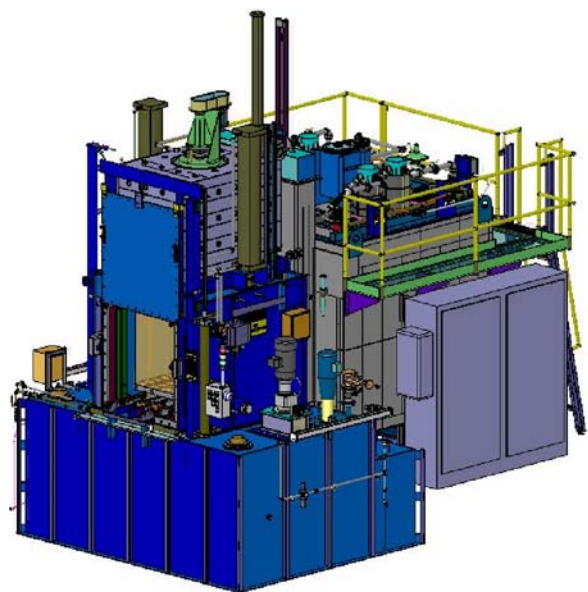

Figure 3. UHQ integral quench batch furnace
The IQ furnace has been the preferred furnace for commercial and captive heat treaters alike, primarily due to the flexibility offered in process, load size and efficiency. With electric as well as gas fired radiant tubes, the IQ furnace has provided unmatched utility and quality for all industrial, aerospace and military markets worldwide. AFC-Holcroft's UHQ series of IQ furnaces are the preferred product for many of the world's largest drive train suppliers. Today AFC-Holcroft's batch furnace as shown in Figure 3 is carburizing and quenching planet gears used by a major wind turbine manufacturer. Flame Metals Processing Corp. in Rogers, MN is a certified heat treat supplier meeting all of the AGMA and wind turbine quality requirements. Even though AFC-Holcroft has sold IQ furnace designed for very large loads, up to 72" (1829 mm) square and 12,000 lbs (5454 kg), they have not been applied to large gears probably because of rear handler (RH) capacity restrictions and the quench tank design. EZ-Lynks, AFC-Holcroft's alternative heat treating system shown in Figure 4a, Figure 4b and Figure 4c eliminates the pit disadvantage and overcomes the material handling concerns by separating the material handling from the furnace proper allowing more flexibility in the hot zone and quench tank designs.